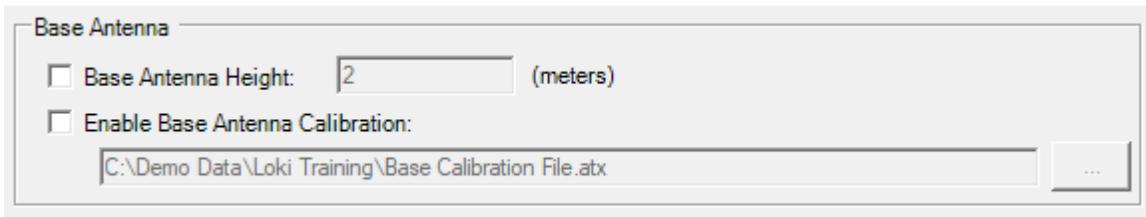

Figure 19 -Base Antenna
14. Uncheck both boxes in the Base Antenna section (Figure 19) and click next when finished.